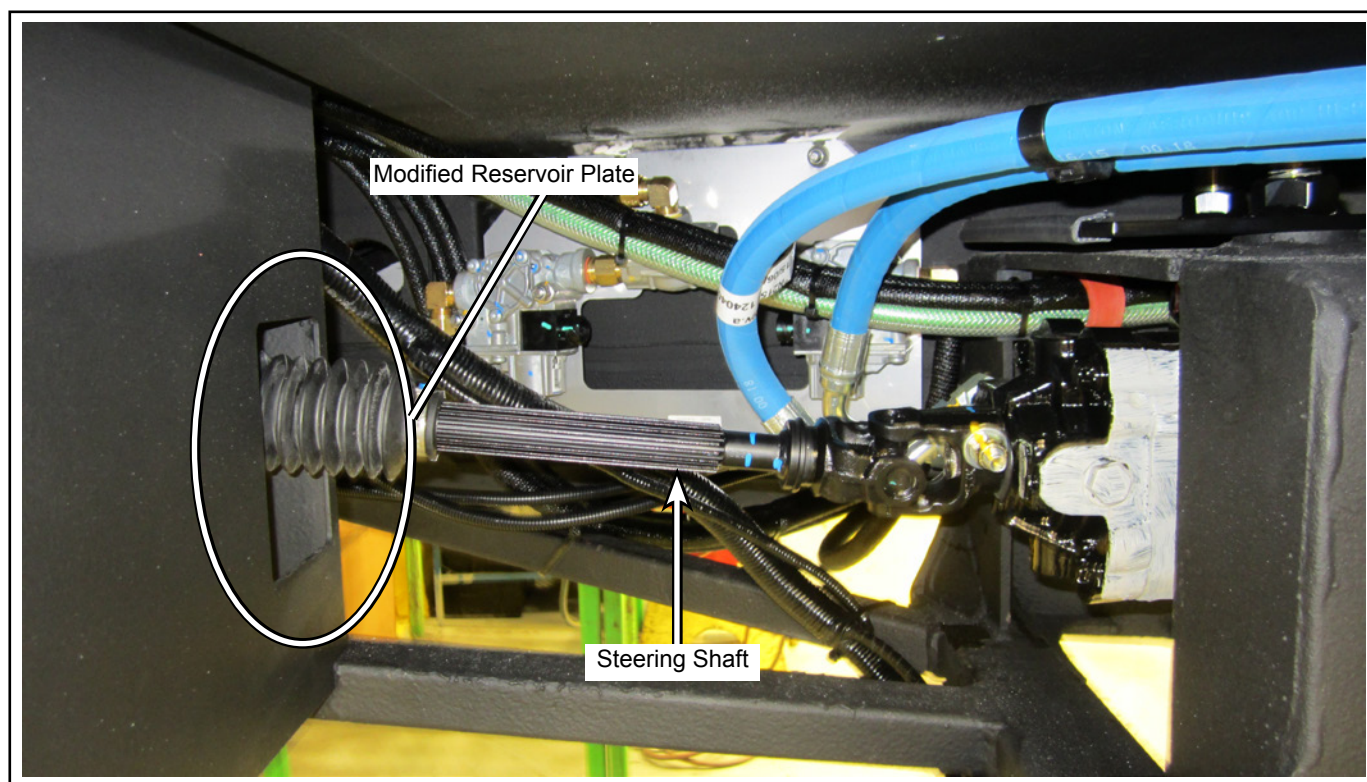

Figure 1 - Steering Shaft with Modified Reservoir Plate
- 1.1. Gain access to the steering shaft on the driver's side, near the front of the bus. See Figure 1.